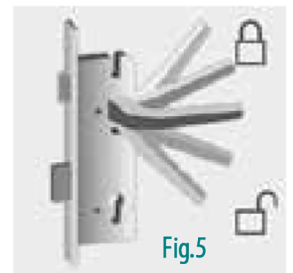

Fig.5
- The handle on the door should be lifted even when the door is not locked. (not applicable to slam shut locks or key windup lock) (see Fig 5).